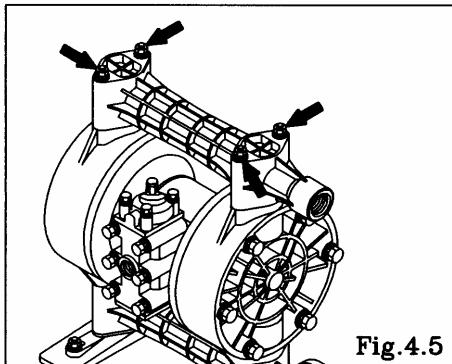

Fig.4.5
See [9. Exploded View] on after p. 11. (Fig. 4.5, 4.6, 4.7 and 4.8 show the NDP-20 BP□[Thread type].)
- Remove the 4 retainer nuts from the upper side of tie rods, and remove the out manifold. [Fig.4.5]